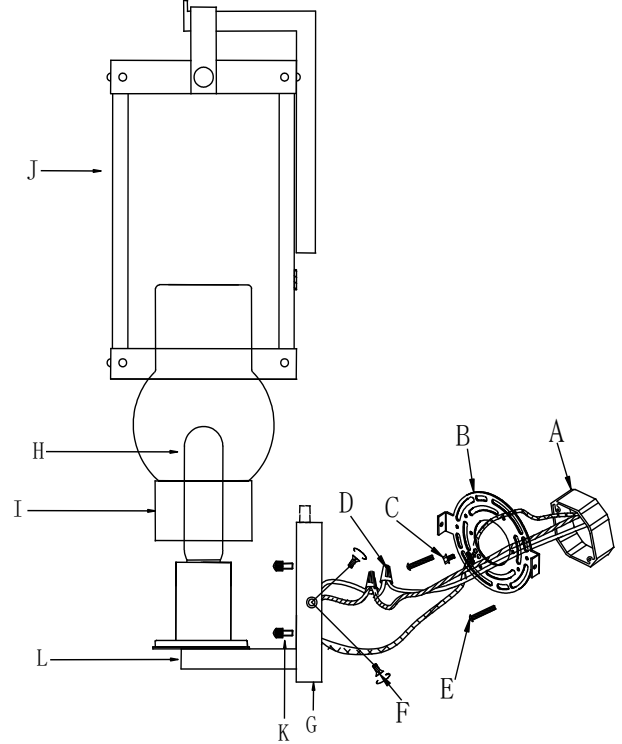

Fig.2
CONNECTING THE WIRES (Fig. 2)
5. Connect the electrical wires as shown in Fig 2, making sure that all wire connectors are secured. If your outlet box has a ground wire (green or bare copper), connect the fixture's ground wire to it. Otherwise, connect the fixture's ground wire directly to the mounting plate (B) using the ground screw (C) provided.